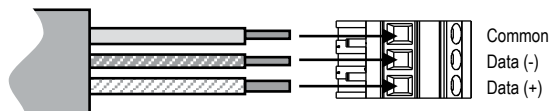
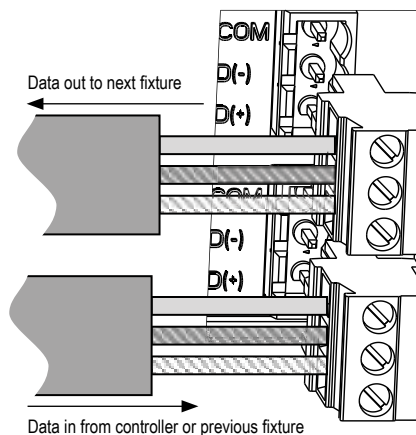

Figure 2. DMX cable pinout for CAT5 cable.
Figure 3. Location of data in and out jacks on fixture.
4. Install included 3-position connectors on DMX cable as shown in Figure 2 and plug into fixtures as shown in Figure 3.